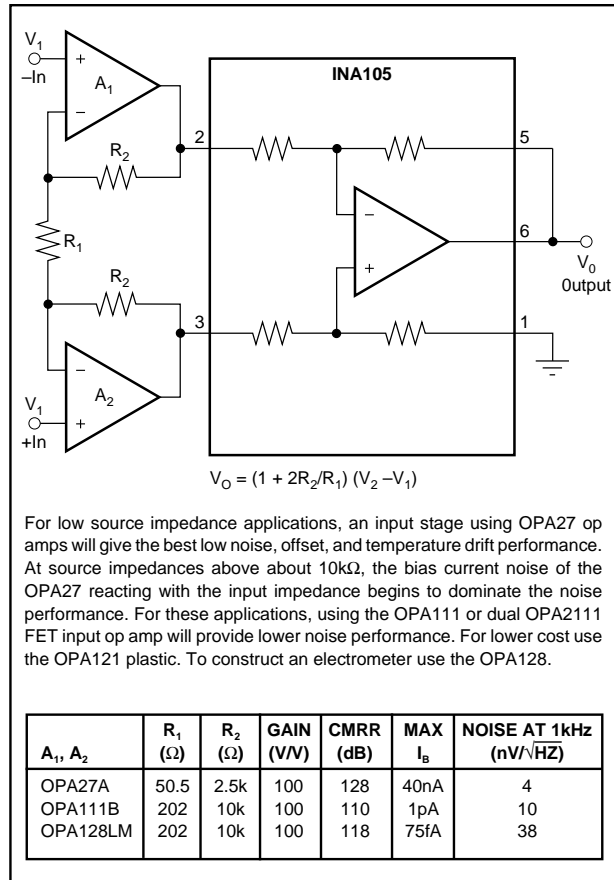

FIGURE 4. Precision Instrumentation Amplifier.
NOTES: (1) Connected as difference amplifier (see Figure 4). (2) Nonlinearity is the maximum peak deviation from the best-fit straight line as a percent of full-scale peak-to-peak output. (3) 25kΩ resistors are ratio matched but have ±20% absolute value. (4) Maximum input voltage without protection is 10V more than either ±15V supply (±25V). Limit IIN to 1mA. (5) With zero source impedance (see "Maintaining CMR" section). (6) Referred to output in unity-gain difference configuration. Note that this circuit has a gain of 2 for the operational amplifier's offset voltage and noise voltage. (7) Includes effects of amplifier's input bias and offset currents. (8) Includes effects of amplifier's input current noise and thermal noise contribution of resistor network.